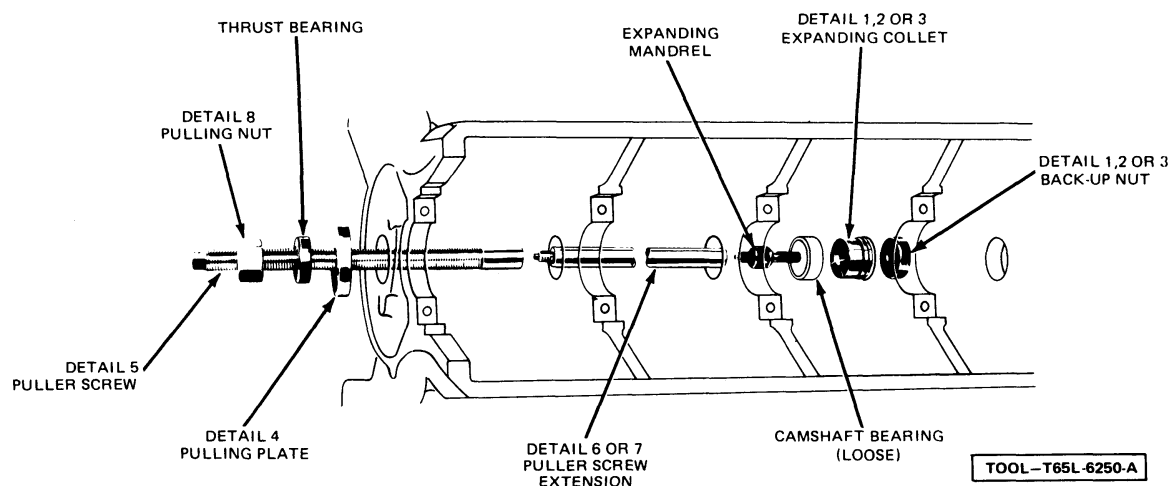

FIG. 45 Camshaft Bearing Replacement
2. Remove the camshaft rear bearing bore plug as detailed in Part 21-01. Remove the camshaft bearings (Fig. 45).
1. Position the new bearings at the bearing bores with the oil holes aligned and press them in place with the tool shown in (Fig. 45). Be sure to center the
Tappet assembly is shown in Fig. 45.